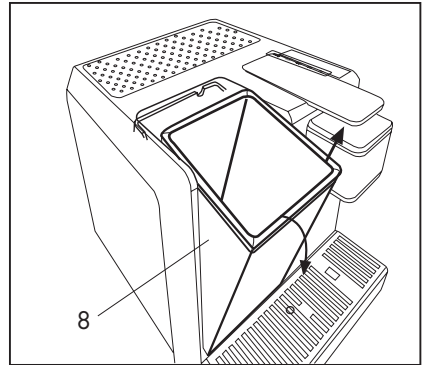

Fig. 1
- Remove the tank (8) by pulling it outward and lifting. **(Fig.1)**